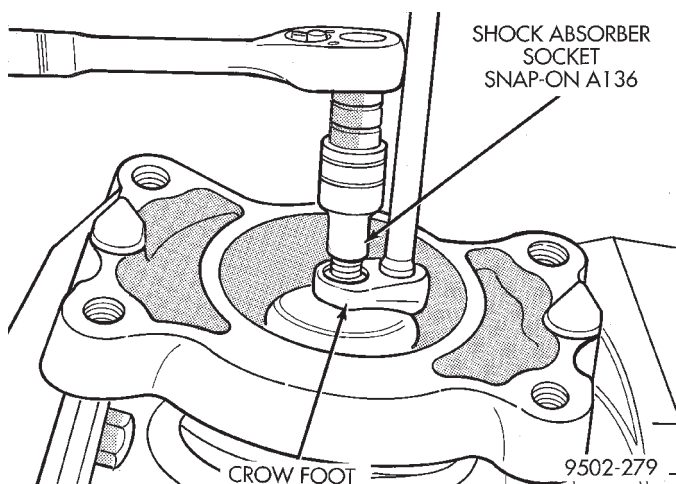
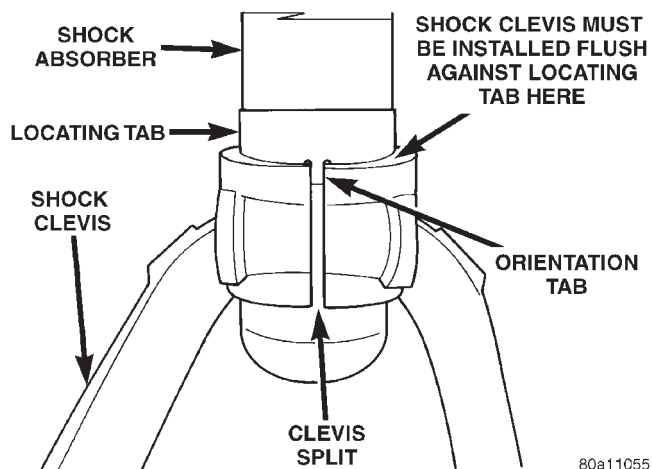

Fig. 19 Shock Absorber Shaft Nut Removal
Fig. 26 Clevis Correctly Installed On Shock Absorber
(13) Hold the rod of the shock absorber from rotating using Shock Absorber Socket, Snap-On A136 or an equivalent (Fig. 19). Then remove the shock absorber shaft nut.
(7) Install nut on rod of shock absorber assembly. While holding rod of shock absorber from turning, tighten shock absorber rod retaining nut to a torque of 55 N·m (40 ft. lbs.) (Fig. 19).
(8) Relieve all tension from spring compressor. After all spring tension has been removed from the spring compressor, remove it from the shock absorber assembly.
(9) Remove the shock absorber assembly from the vise and remove the clevis from the shock absorber.
(10) Install shock absorber assembly with the clevis bracket removed, into the shock tower. Align the 2 locating pins and the 4 mounting holes on the upper control arm shock absorber mount with the holes in shock tower. Install the 4 upper control arm mount to shock tower mounting bolts. Tighten the 4 bolts to a torque of 95 N·m (70 ft. lbs.). Refer to Shock Absorber Installation in this section of the service manual for the proper procedure.
(11) Install the clevis on the shock absorber. Clevis is installed by tapping it onto shock absorber using a soft (brass) drift until fully seated against locating tab on shock absorber. Locating tab on collar must be positioned in the split of the clevis bracket (Fig. 26).